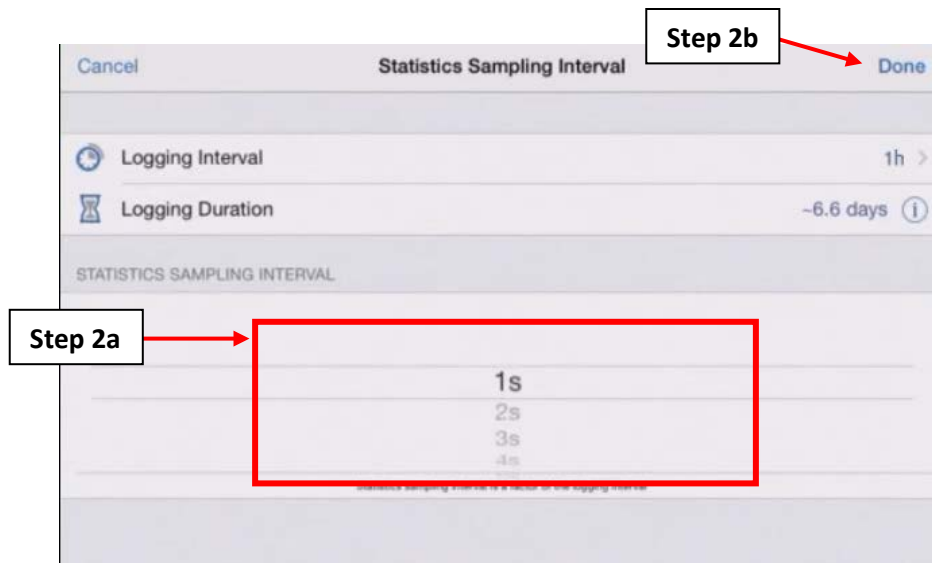

Figure A.7.12: The “Statistics Sampling Interval” screen.
2. Tap the “Statistics Sampling Interval” option which will take you to the “Statistics Sampling Interval” screen as shown on Figure A.7.12.